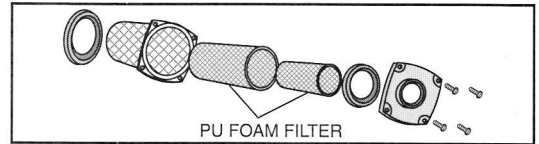

Fig. 41
**AIR CLEANER :** Air cleaner is fitted below the fuel tank and requires cleaning during each periodical service (Fig. 41 & 42) and more frequently when riding in dusty area's.